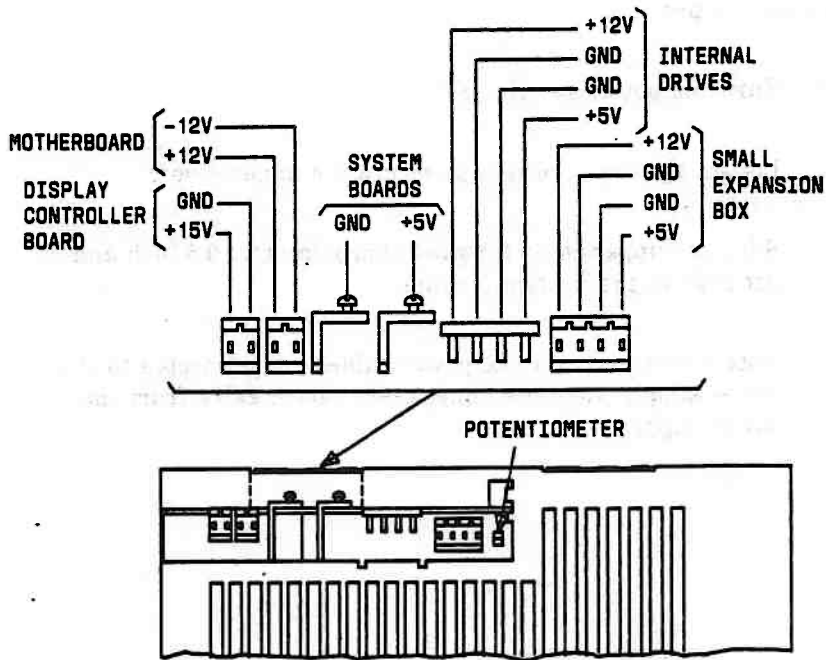

Figure 5-2. Power Supply Connectors
- Place the volt-ohmmeter (VOM) leads on +5 and GND screw terminals of the power supply (10 volts or greater scale—observe polarity) (Figure 5-2).